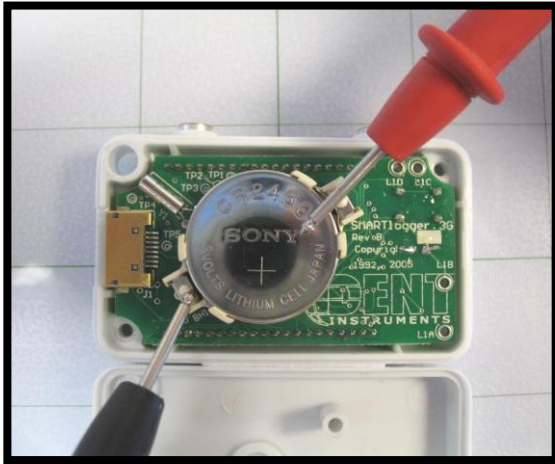

Figure 1. Test battery voltage with a multimeter.
3. Using a multimeter, read the battery's voltage while it is under load (mounted in the holder). (See Figure 1.)